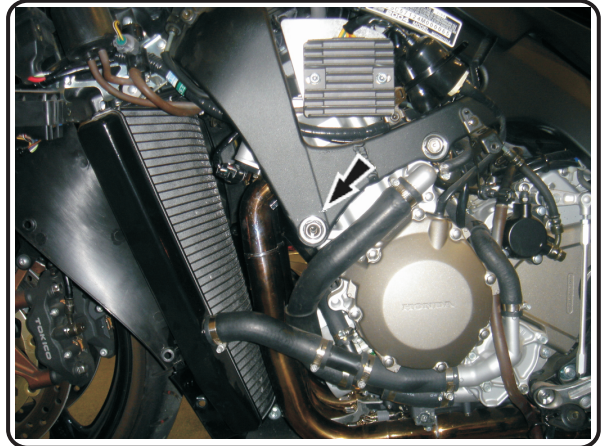

Fig. 1
- 2 Slide 3/16" drill bit into the hole in the stock chassis mount bolt with the cutting end facing out. (See Fig. 1 and 2)